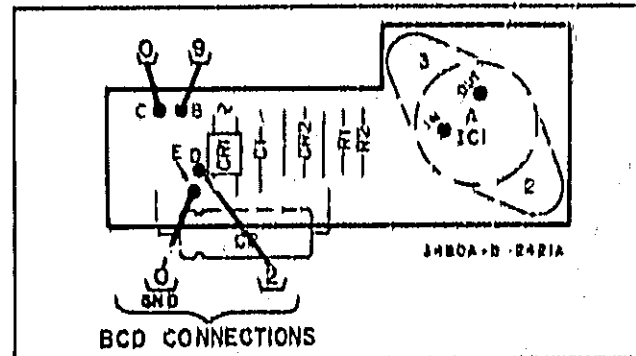

Figure 2-7. A9 Installation for BCD Option 004.
h. Locate unattached black wire and white wire in bundle along side of printed circuit compartment. Withdraw ends of these wires from bundle and connect to pins c and b on top side of A9 as shown in Figure 2-7.
j. Connect power cord and turn 3480C/D on. Check for $+5\text{ V} \pm 5\%$ at point indicated in Figure 2-7. Ground for this supply is chassis ground. If voltage is correct, turn power off and disconnect power cord. If not, troubleshoot A9 assembly and input from power transformer.
m. Connect black (ground) and red (+5 V) wires from cable to A9 pins D and E as indicated in Figure 2-7.